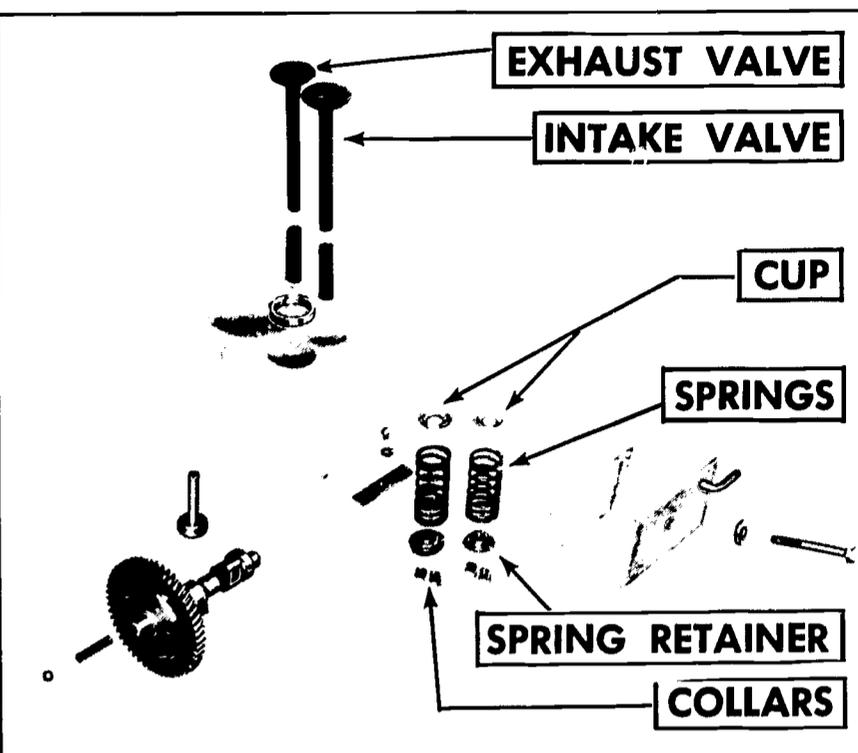

FIGURE 196. Valve assembly removed from the engine.
5. *Remove the valve springs and cups (Figure 196).*
4. *Check valve-spring retainer and retainer locks for wear (Figure 196).*